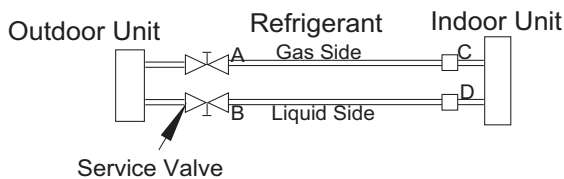

Fig. 8 — Service Valve
1. Completely tighten flare nuts on the line set at both the indoor and outdoor units. **DO NOT** open the service valves on the outdoor unit for the new installation or the replacement unit. Open the service valves on the outdoor unit if repairs have been made to the refrigerant sealed system. Connect the manifold gauge low pressure hose to the charge port of the gas side service valve (see Fig. 8).